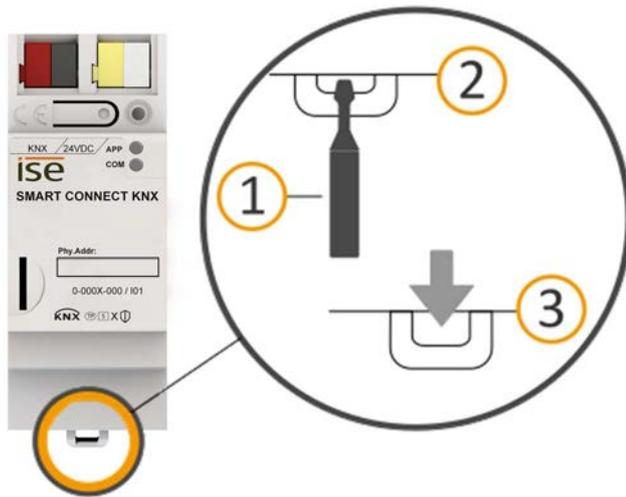

Figure 34: Detaching the device from the top-hat rail
1. Insert a screwdriver (see figure 34, item 1) into the release lever (see figure 34, item 2) and push the release lever down (see figure 34, item 3).